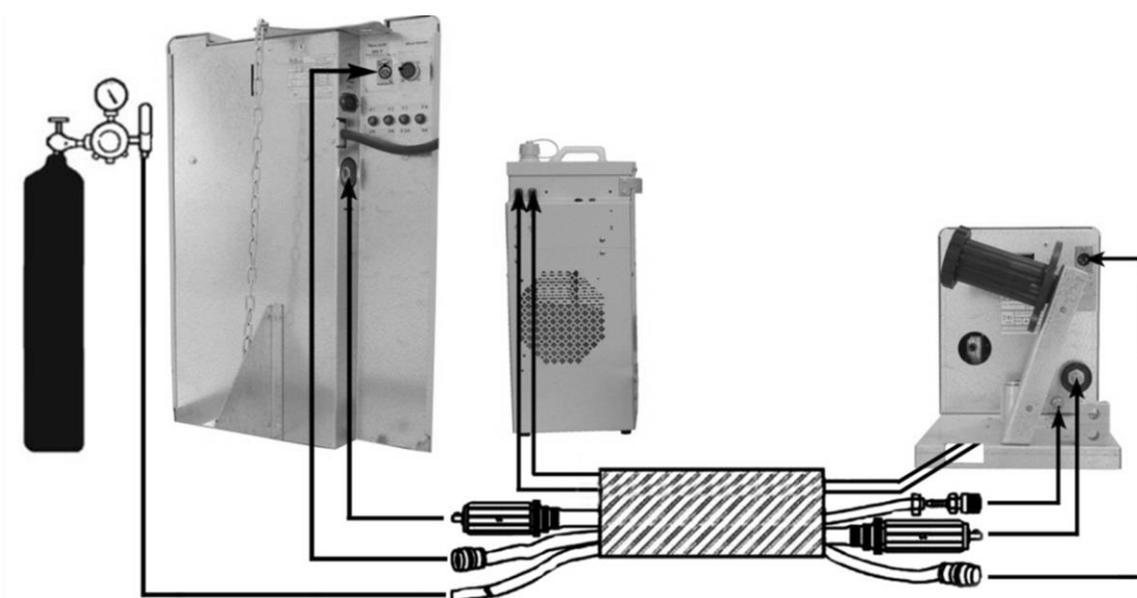

Figure.1
Connect the interconnection cables (power cable, ancillary wiring and gas tube) to the special attachments and couplings shown in Fig.1.
- Wire feeder side connecting cable: connect the red and blue hoses to their respective fittings on the rear panel of the feeder (Fig. 1).
To start MIG-MAG welding, make the connections as shown in figures 1 and 2, more precisely (while the machine switched off):
- connect the generator - feeder connecting cable as shown in figure.1. Gas cylinders are supplied with a pressure reducer to adjust pressure of the gas used for welding;